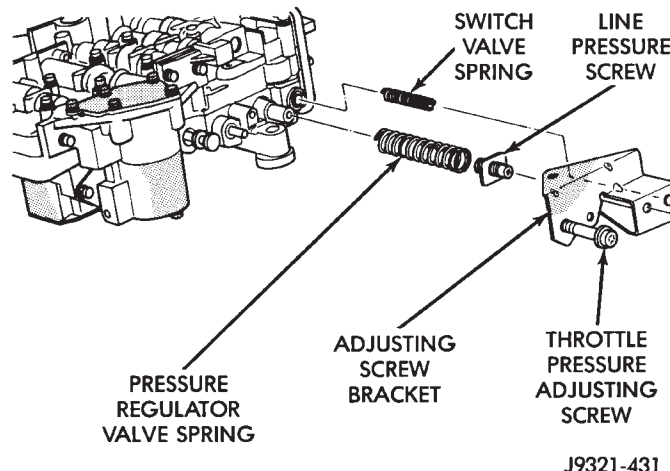

Fig. 50 Adjusting Screw Bracket And Spring
(20) Remove adjusting screw bracket, line pressure adjusting screw, pressure regulator valve spring and switch valve spring (Fig. 50). **Do not remove throttle pressure adjusting screw from bracket and do not disturb setting of either adjusting screw during removal.**